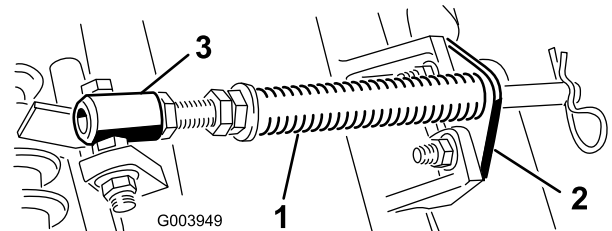

Figure 4
- A. Remove the 2 carriage bolts and nuts securing the rod bracket to the cutting-unit tabs (Figure 4).
- B. Remove the flange nut securing the spring-tube bolt to the carrier-frame tab (Figure 4). Remove the assembly.